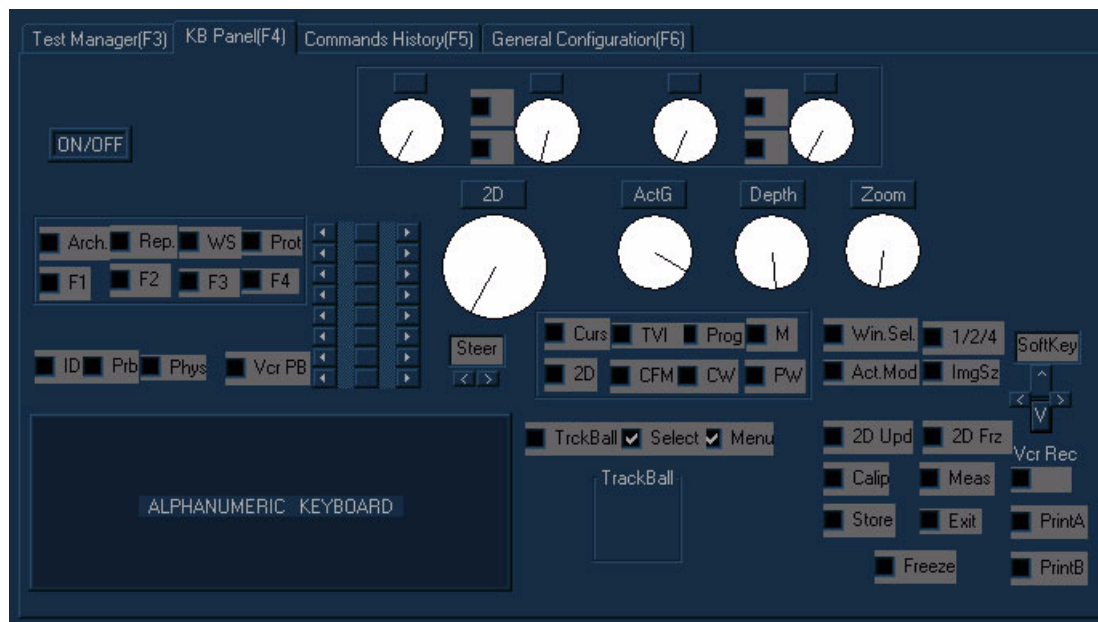

Figure 7-49 KB Panel Tab - Extended Keyboard Test Window
- 4) Trackball to the **KB Panel** tab and press **Select**. The **KB Panel** tab is displayed, as shown in Figure 7-49 on page 7-75.